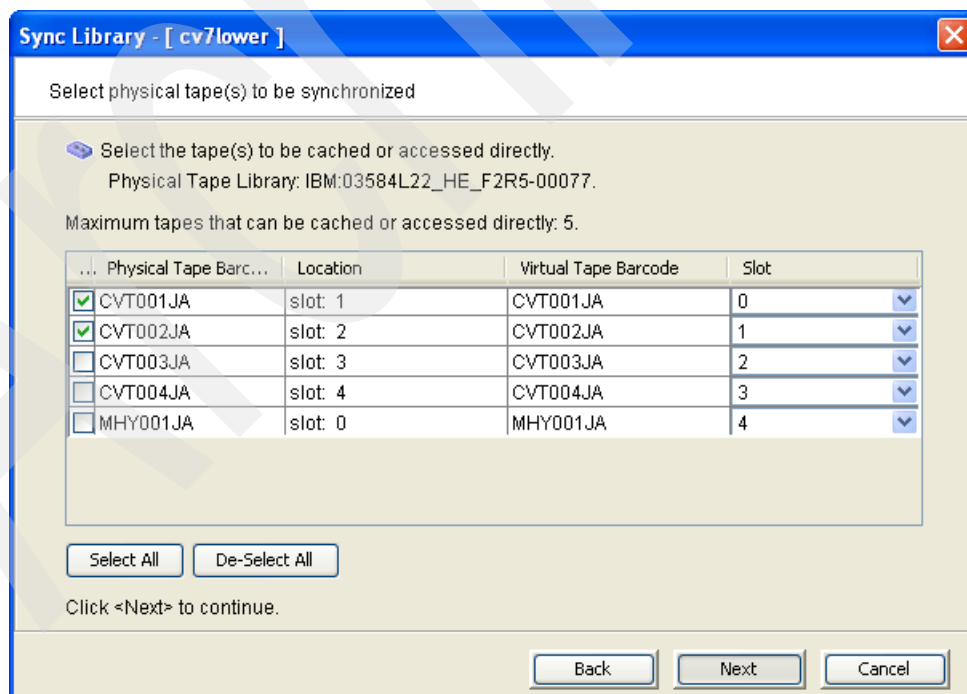

Figure 12-46 Select the physical tape volumes for cache creation
3. Select the physical tapes for which you want to create a cache and click **Next** (Figure 12-46).